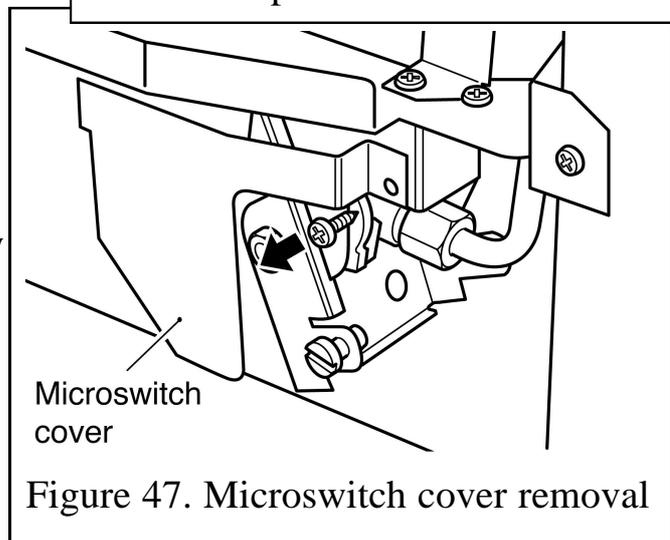

Figure 47. Microswitch cover removal
See figures 47 & 48.
2. Detach the microswitch cover by removing one screw and pulling clear of the location lug (See figure 47).
(See figures 47, 48 & 49).